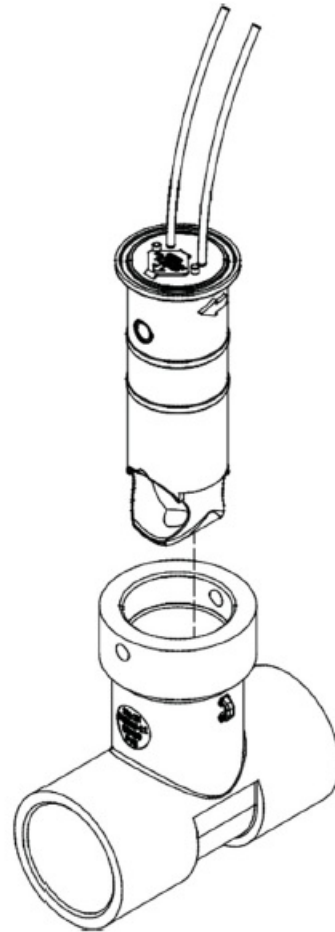

Figure 14
2. Remove the old insert. Grasp the insert flange with your hand and pull straight up and out of the Tee, making sure no dirt or other particles fall into the insert bore of the meter (see Figure 14).